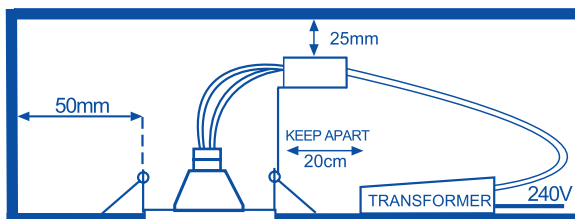

Fig. 1
1. Select the required position for the luminaire ensuring the clearances shown in Fig.1 are observed. Beware of joists, water pipes and electric cables. Cut a hole in the ceiling for the type of luminaire to be fitted as follows: